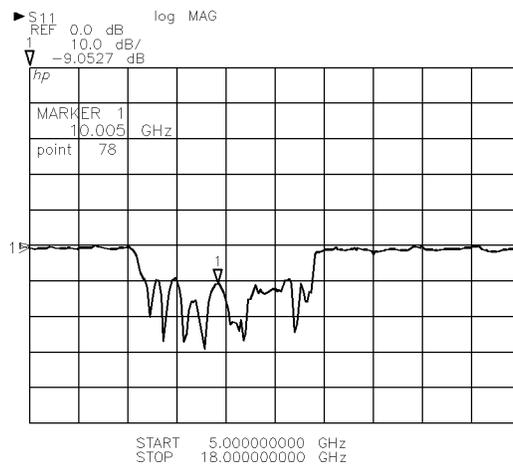

Figure 2-8. Return Loss:  $S_{11}$  LOG MAG
- b. Use the RPG knob to position the marker at any point on the trace. The measured return loss, magnitude and value at the marker position is displayed above the graticule. The frequency value is displayed in the active function area. See Figure 2-8 for an example of the typical display.